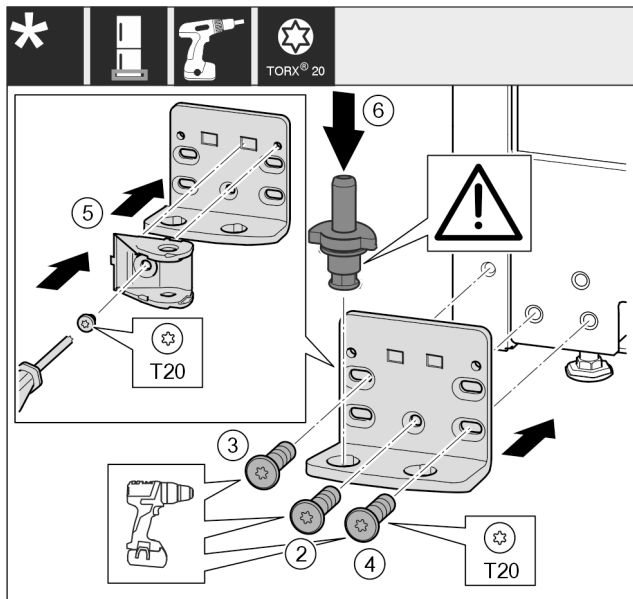

Fig. 15 *
- ▶ Place the bearing bracket on the other side and screw it in using the T20 screwdriver. Start with screw 2 at the bottom in the middle. Fig. 15 (2)*
- ▶ Screw in screws 3 and 4. Fig. 15 (3,4)*